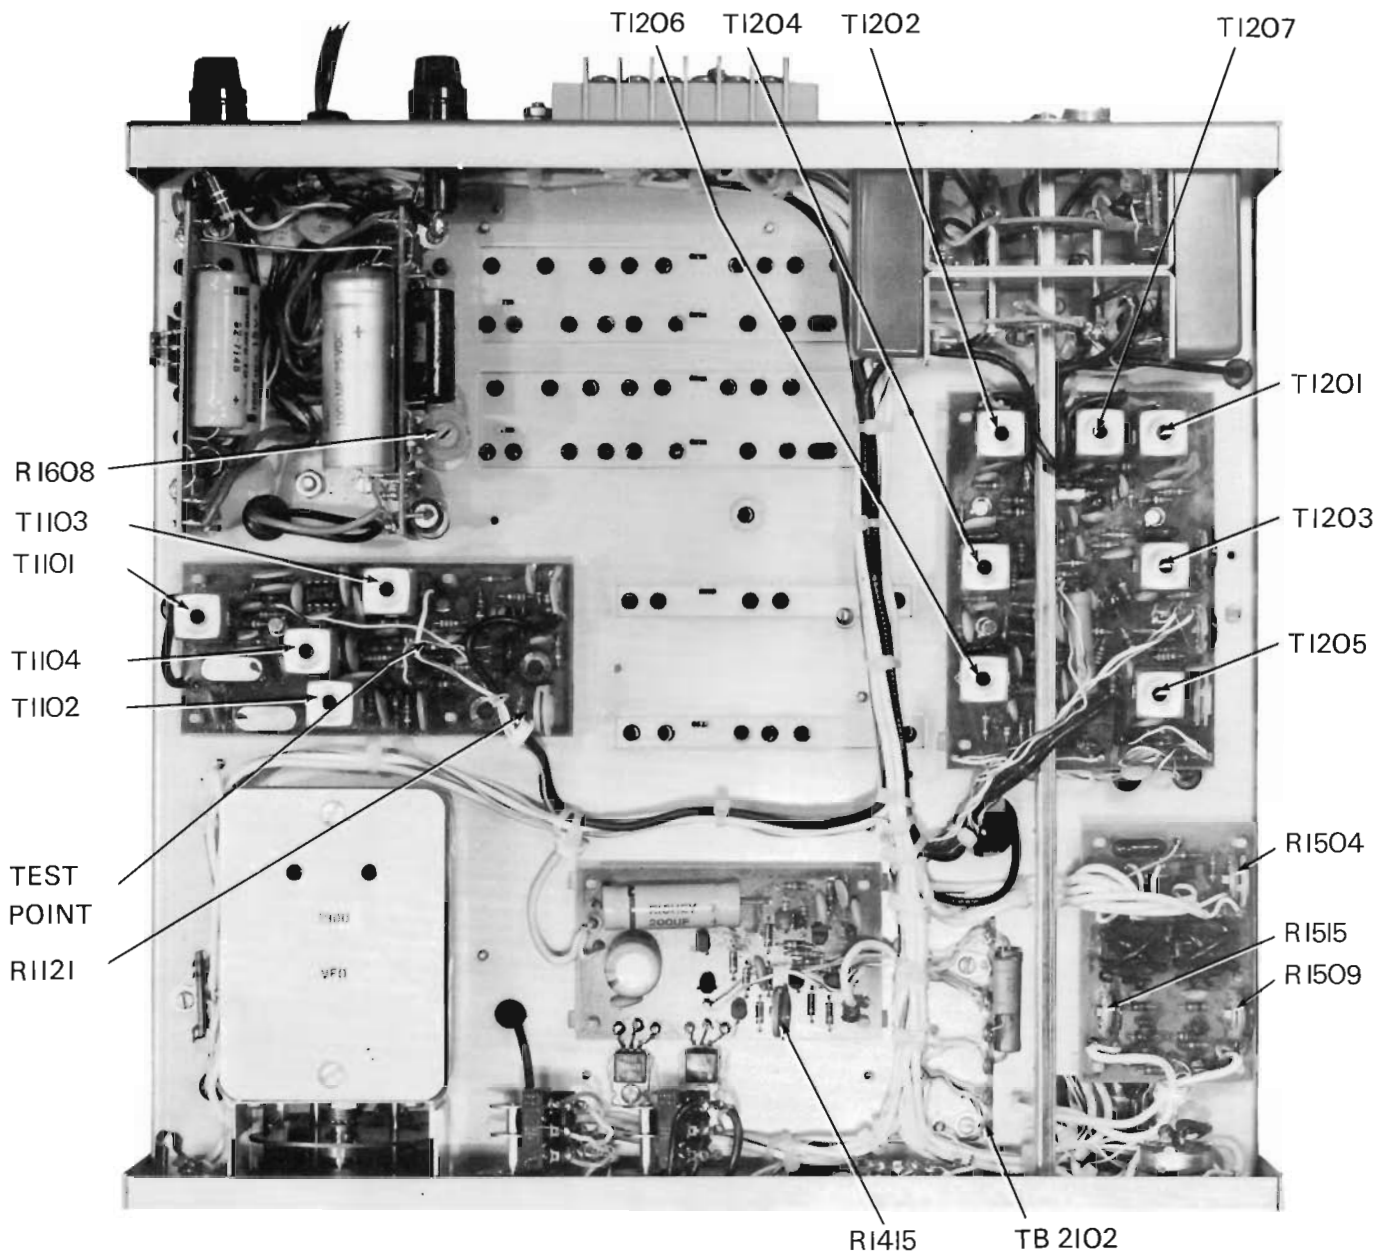

Figure 5-6. Bottom View with Covers Removed
- a. Refer to figure 5-6. Connect the DC probe of the VTVM to the test point on the IF-Noise Blanker board. Decrease signal generator level until a voltage deflection is noted on the VTVM. This voltage deflection will be in the negative direction.
- c. Refer to figure 5-6. Adjust the potentiometer R1504 for an audio zero beat.
- d. Refer to figure 5-6. Facing the variable resistor R1415 from the right side of the receiver, rotate the adjusting ring full clockwise; then rotate the adjusting ring counterclockwise until crossover distortion just disappears on the oscilloscope.
Refer to figure 5-6. Place DC probe of VTVM to the 15 volt terminal on terminal strip TB2102 (fifth terminal from the front). Adjust the variable resistor R1608 located on the Power Supply board for 14.5 volts.